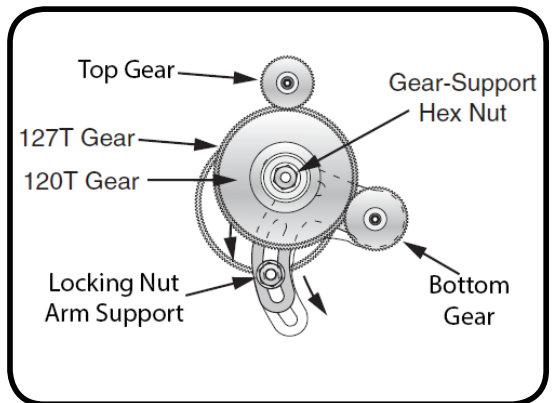

Fig. 42
5. While holding the 120T/127T gears, loosen the arm support locking nut and slowly let the gears pivot down and away from the upper top gear, as illustrated (Fig. 42)
6. Loosen the 120T/127T gear support hex nut and slide the middle gear away from the bottom gear. The 120t/127T gears many need to be reversed. Undo the gear support hex nut (Fig. 42) and reverse the gears.